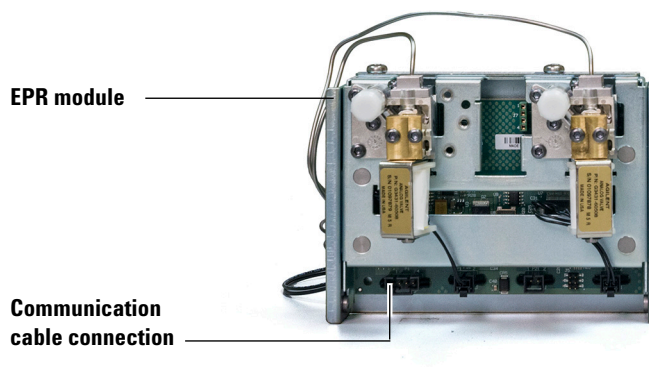

**Figure 9** EPR module locations (shown with EPR modules installed)
- 1 Remove the EPR module bracket by loosening the captive screw and lifting the bracket off the GC. (See Figure 9.)